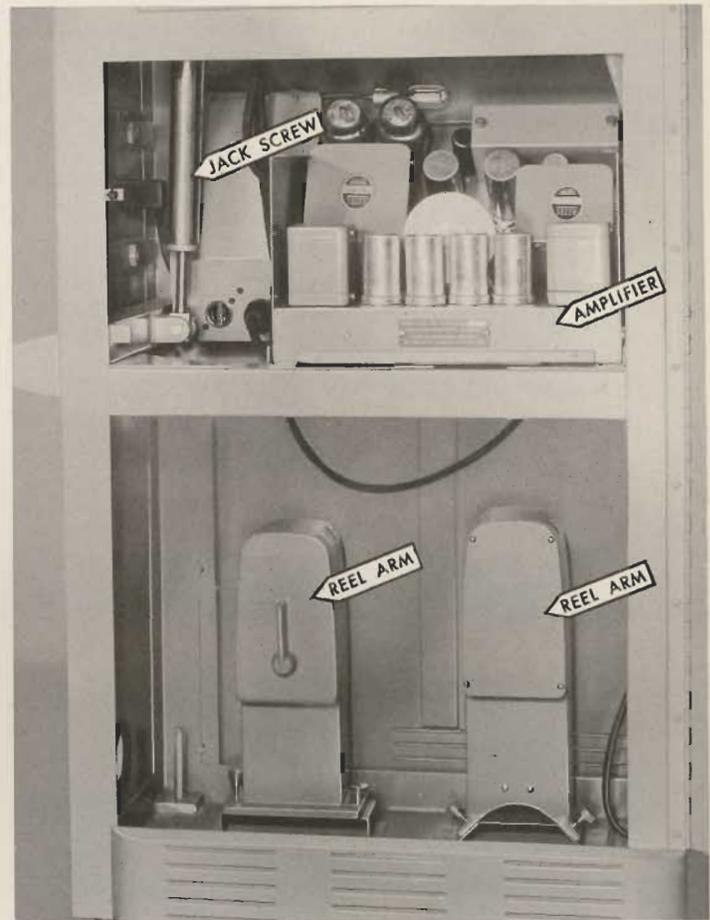

FIGURE 6
2. With the control panel of the **AMPLIFIER**, figure 6, toward the operator's side of the projector, slide the amplifier into place on the two supporting side rails. It may be necessary to raise the rear of the amplifier slightly so that the controls will slip into the opening at the side of the projector.
1. Remove the **REEL ARMS**, figure 6, from the pedestal.
5. For vertical adjustment, turn the pedestal JACK SCREW, figure 6.